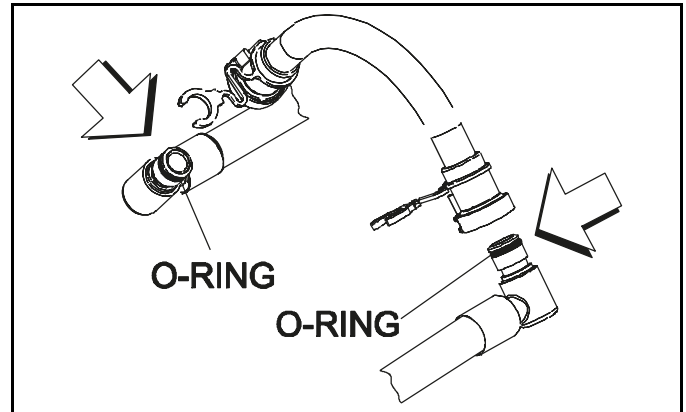

Figure 6-79
1. Lubricate the O-rings on the syrup line fittings with Taylor Lube HP. (See Figure 6-79.)